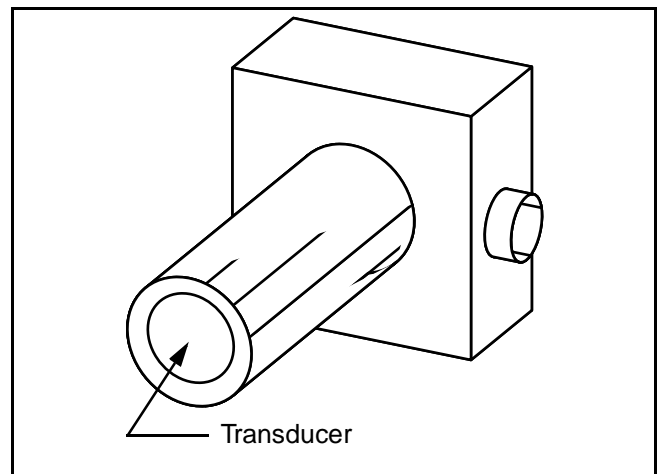

Figure 3 - 56 Cleaning sonic sensor
- 3) Check transducer daily for material buildup. The transducer can be cleaned with Simple Green cleaning fluid. Place cleaning fluid on a clean rag and rub transducer gently to remove any material. Wipe transducer clean and dry. (Figure 3 - 56)